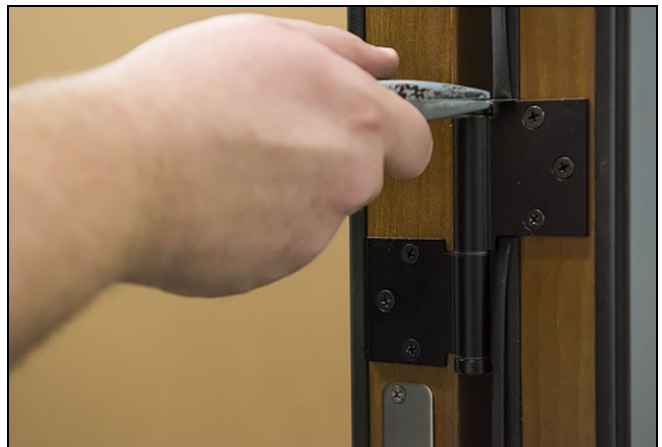
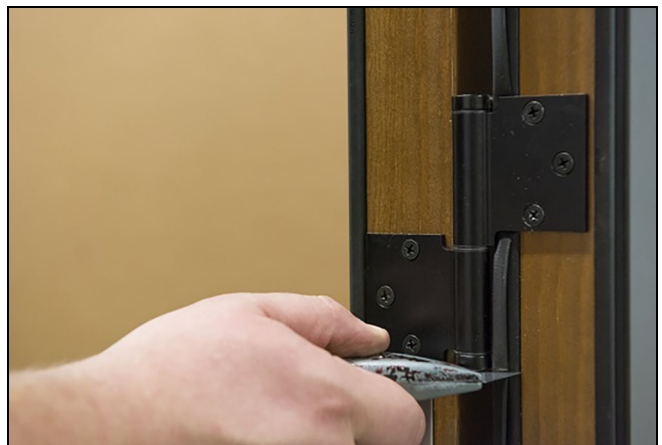

Figure 67
Figure 68
4. Slice the flexible portion of the weather strip above and below the installed handle. See Figure 67 and Figure 68.